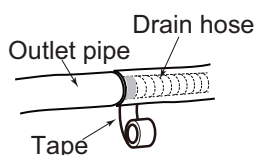

Fig.9
- (2) Bind the joint with tape.(As show in Fig.9)